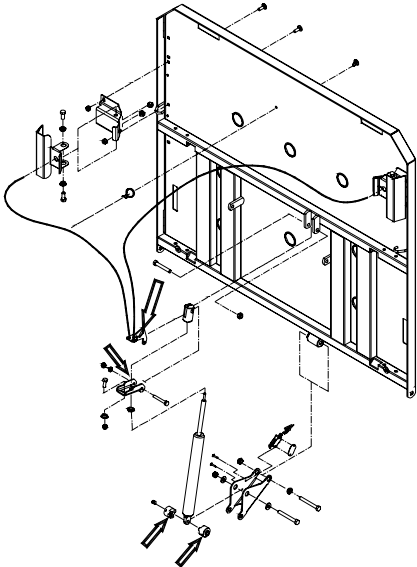

Figure 2.2D
- ___ The damper spacer sleeves and the fixed and mobile levers (see fig. 2.2D, page 11) from the CPR positioning mechanism.